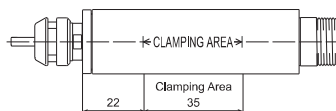

Fig. 8
① When mounting a spindle, refer to the Clamping Area etched on the spindle. (Fig. 8)